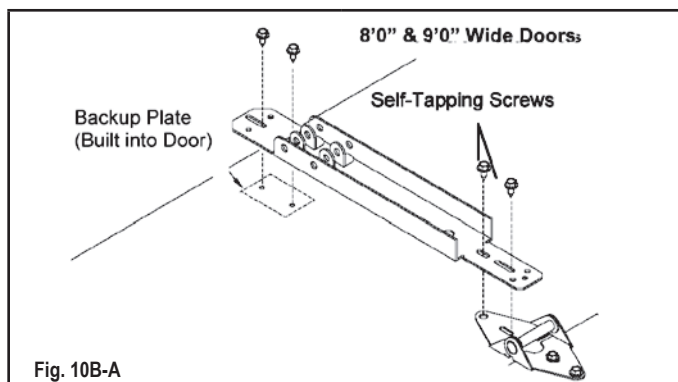

Fig. 10B-A
- Figures 10B-A through 10B-C show installation of operator reinforcement corresponding to a specific door width.